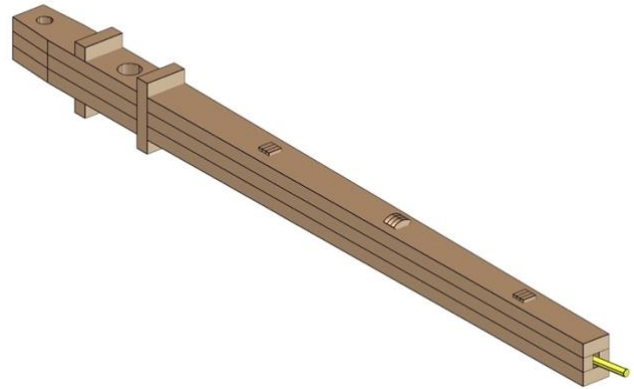

Fig. 59
- *Fig. 59* shows the completed process.